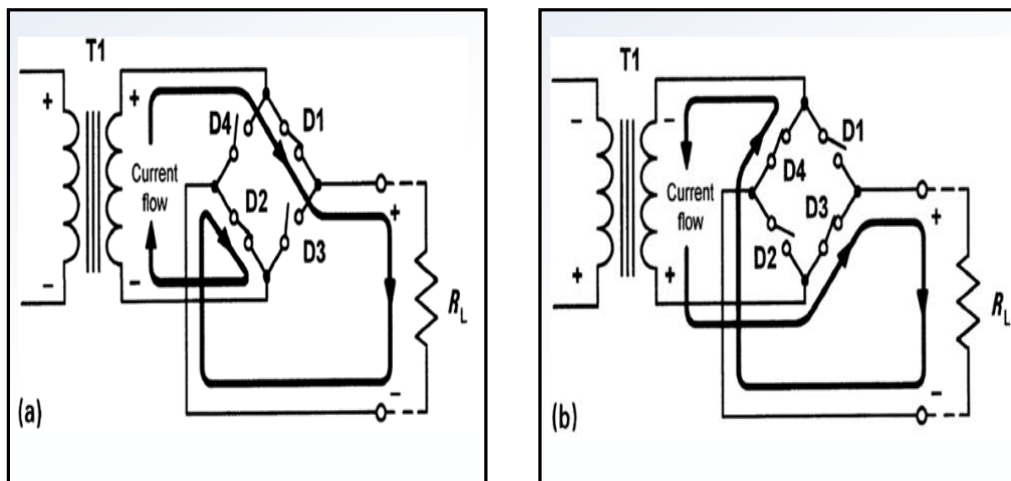

Figure 1.15 (a) Bridge rectifier with D1 and D2 conducting, D3 and D4 non-conducting (b) bridge rectifier with D1 and D2 non-conducting, D3 and D4 conducting
- Fig. 1.15 shows the bridge rectifier circuit with the diodes replaced by four switches. In Fig. 1.15(a) D1 and D2 are conducting on a positive half-cycle while in Fig. 1.15(b) D3 and D4 are conducting.